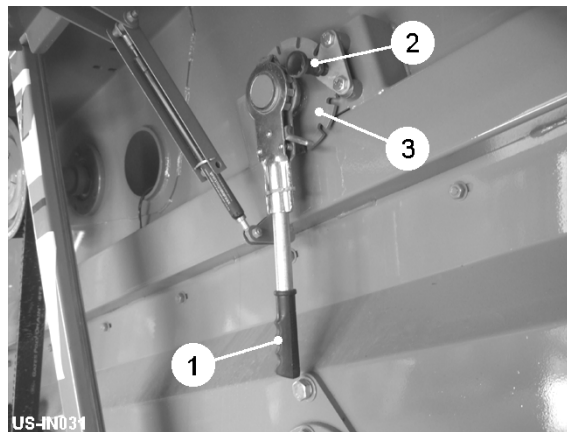

Fig 11
The initial height of the draper web is set using the ratchet arm (item 1, fig11).
2. Support the weight of the web by holding the ratchet arm (item 1, fig 11).
3. Pull out the plunger (item 2, fig 11) and rotate the ratchet arm allowing the plunger to rest on the slotted plate (item 3, fig 11).